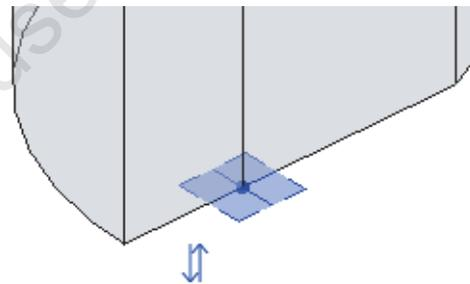

Figure 1–41
5. Click  (Modify) and select the point element. A reference plane perpendicular to the path is displayed. It becomes the work plane on which you can draw the profile for a sweep, as shown in Figure 1–41.